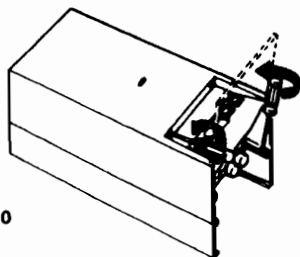

Fig. 10
5.3.1 Remove 4 screws securing the lower part of the casing to the case frame. (Fig 10)